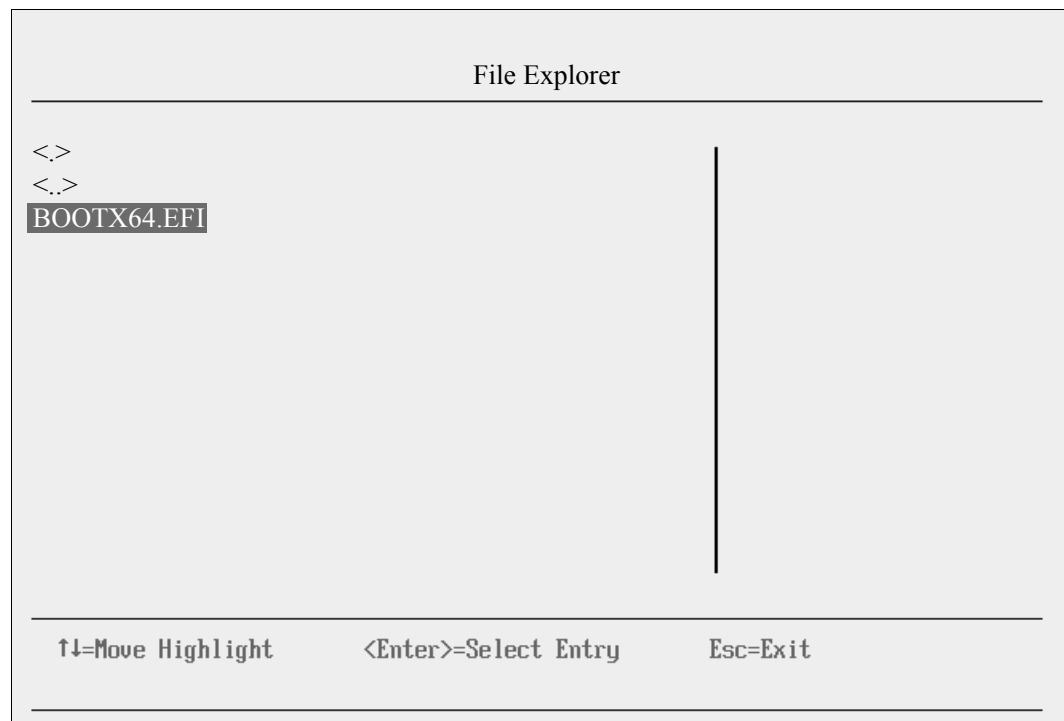

Figure 9-126 Selecting the *BOOTX64.EFI* file
- Now that you are browsing the DVD, select **EFI**, select **BOOT**, and then select **BOOTX64.EFI** (Figure 9-126). This file name might be different if you are booting other versions of Windows, VMware, or Linux.